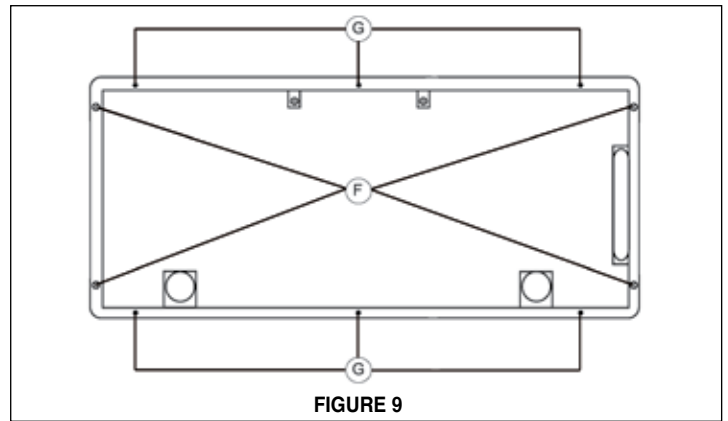

FIGURE 9
5. Fix the rangehood to the cabinet or custom hood using the four spring loaded brackets, two on each side of the rangehood. Using a philips screwdriver or drill, tighten the adjustment screws **(F in FIGURE 9)** until the brackets adhere tightly to the surface.
6. **IMPORTANT:** There are 6 holes **(G in FIGURE 9)** for screws (not provided) to reinforce the rangehood to your cabinet or custom hood. Use screws appropriate for the size and type of materials of your cabinet or custom hood.